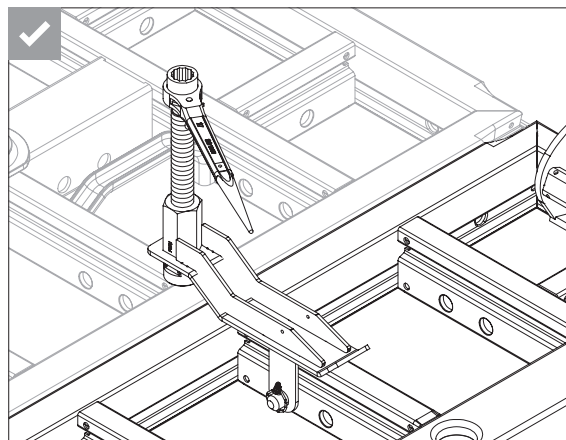

Fig. A20.02a
- The ball joint holder (103.3) must not rest on the Panel MX-2 being released or the wall thickness compensation. (Fig. A20.02a)
- Panel MX-2 (5) must be secured with a crane
3. Remove Alignment Couplers BFD (28) and Anchors MX18 (17 / 18 / 19).
4. Turn spindle (SW19) (103.2) with Scaff. Build. Ratchet SW19/22 (35) on both Stripping Aids MX/TR (103) alternately or simultaneously in a clockwise direction.